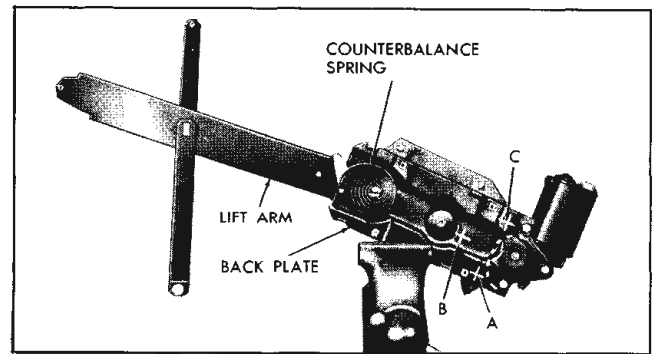

Fig. 15-22 Back Door Electric Window Regulator
2. Place regulator and motor assembly in a vise (Fig. 15-22). Drill a 1/4" hole through back plate and sector at location indicated at either "A", "B", or "C" (Fig. 15-22) depending on position of lift arm.
4. Remove motor attaching bolts (Fig. 15-22) and remove motor from regulator.